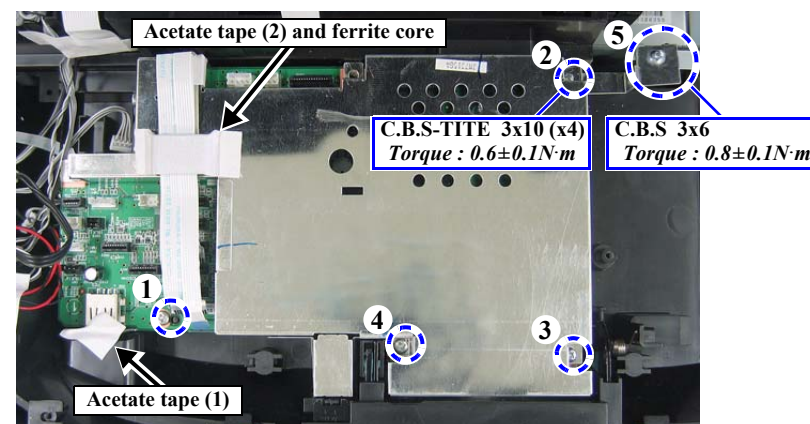

Figure 4-16. Removing the Main Board Assy
2. Disconnect all the FFCs and connectors from the Main Board. (Fig. 4-16)
3. Peel off the acetate tape (1).
4. Peel off the acetate tape (2) and remove the ferrite core on the Printhead FFC.
Tighten the screws in the order specified to secure the Main Board and Main Board Assy. (Fig. 4-16)